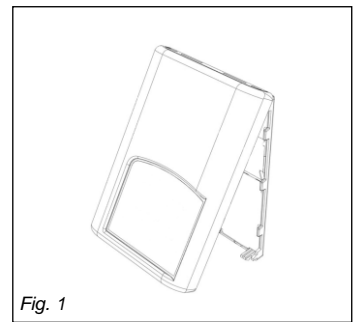

Fig. 1
Installation of room sensors (VH20 Wall) (Fig. 1 & 2)
- Open up by pulling on the bottom side of sensor. (Fig.1)